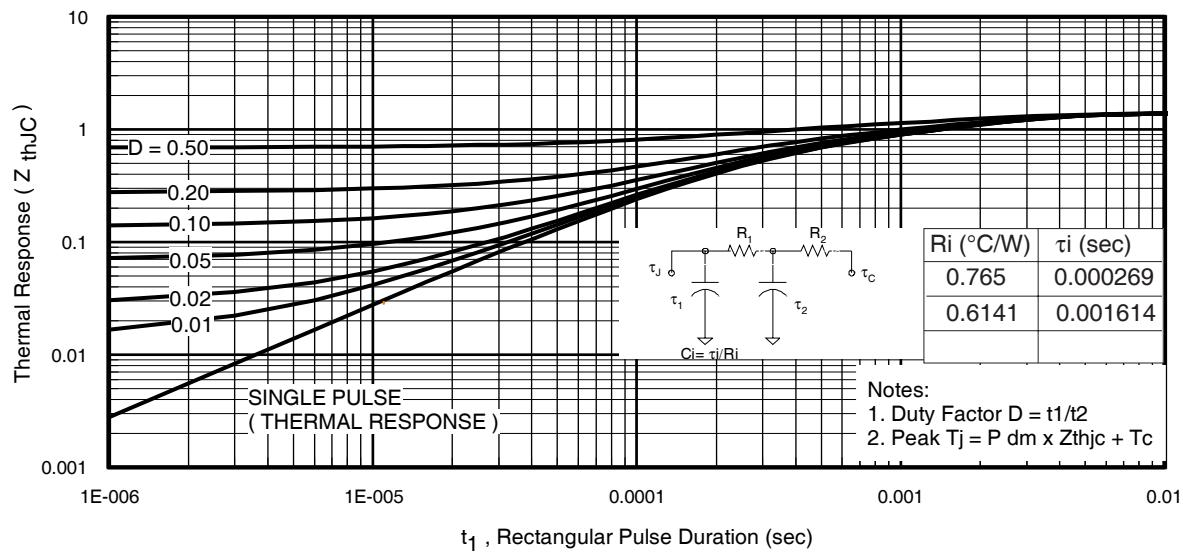
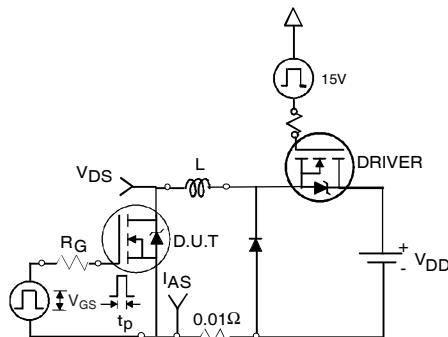

Fig 11. Maximum Effective Transient Thermal Impedance, Junction-to-Case
Fig 12a. Unclamped Inductive Test Circuit
- ① Repetitive rating; pulse width limited by max. junction temperature. (See fig. 11).
- ② Limited by T_{Jmax} , starting $T_J = 25^\circ\text{C}$, $L = 0.089\text{mH}$, $R_G = 25\Omega$, $I_{AS} = 36\text{A}$, $V_{GS} = 10\text{V}$. Part not recommended for use above this value.
- ③ Pulse width $\leq 1.0\text{ms}$; duty cycle $\leq 2\%$.
- ④ $C_{\text{oss eff.}}$ is a fixed capacitance that gives the same charging time as C_{oss} while V_{DS} is rising from 0 to 80% V_{DSS} .
- ⑤ Limited by T_{Jmax} , see Fig.12a, 12b, 15, 16 for typical repetitive avalanche performance.
- ⑥ This value determined from sample failure population, starting $T_J = 25^\circ\text{C}$, $L = 0.089\text{mH}$, $R_G = 25\Omega$, $I_{AS} = 36\text{A}$, $V_{GS} = 10\text{V}$.
- ⑦ When mounted on 1" square PCB (FR-4 or G-10 Material). For recommended footprint and soldering techniques refer to application note #AN-994.
- ⑧ R_θ is measured at T_J approximately 90°C .
3. Equation below based on circuit and waveforms shown in Figures 12a, 12b.
$Z_{thJC}(D, t_{av})$ = Transient thermal resistance, see figure 11)